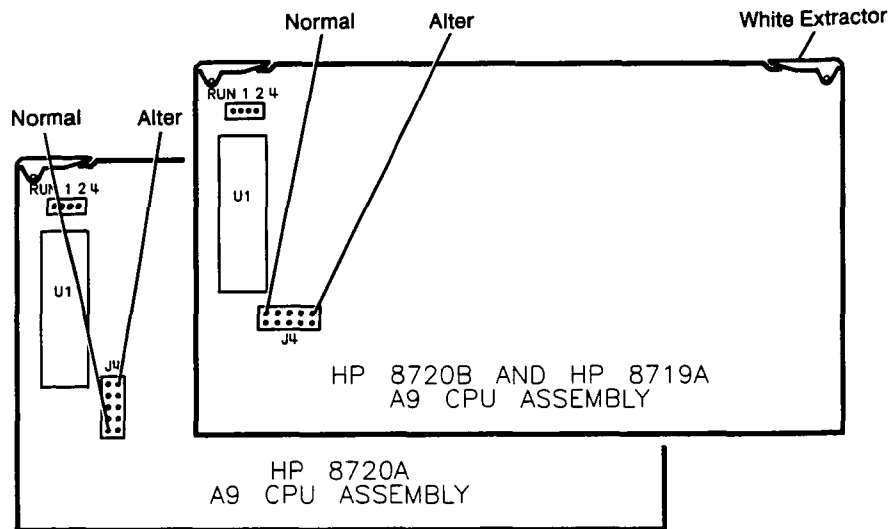

Figure 1. A9 CC Jumper Location
2. The location of the assemblies in the upper portion of the instrument is shown on a label on the under side of the top cover. Remove the A9 CPU assembly and move the A9 CC jumper to the ALTER position (see Figure 1).